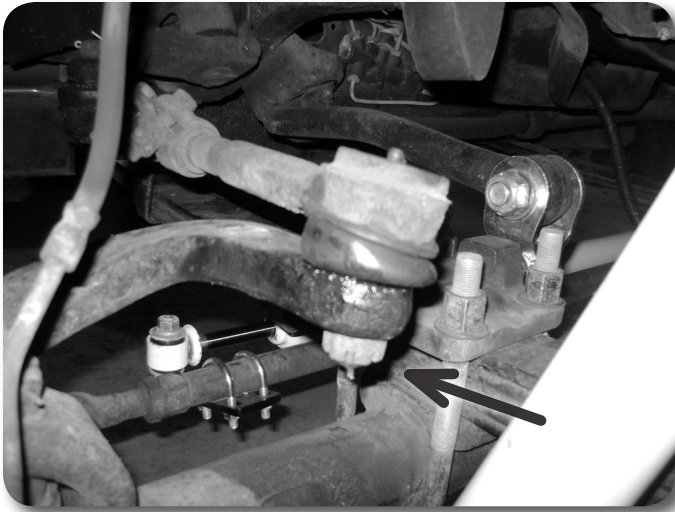

Figure 1
5. Remove the cotter pin and nut from the steering drag link at the steering arm on the driver's side of the axle. Strike the steering arm near the drag link end with a hammer to dislodge the tapered seat. Remove the drag link end from the steering arm. Save the drag link end nut. Figure 1